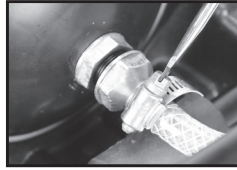

Figure 2
- 2) Remove hose clamp and hose (fig. 2).